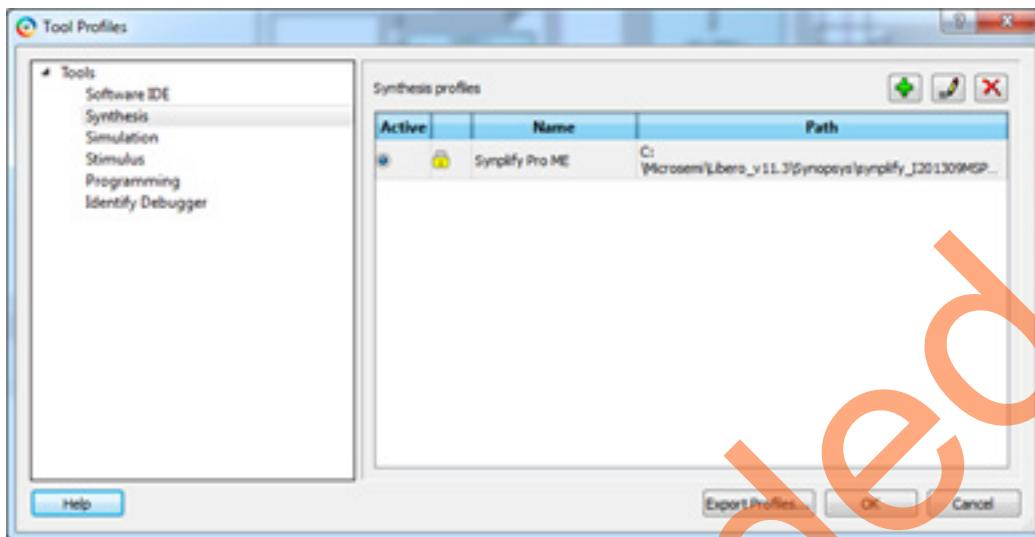

Figure 19 • Tool Profiles
- Core Voltage (V): 1.2
- PLL Supply Voltage (V): 3.3
4. Click **Edit Tool Profiles** to confirm the tool settings. Figure 19 on page 22 shows the **Tool Profiles** window.